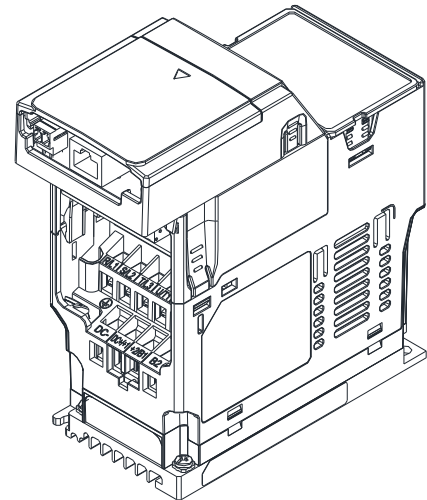

Figure 3-18
9. Assembly is completed, as shown in Figure 3-18.